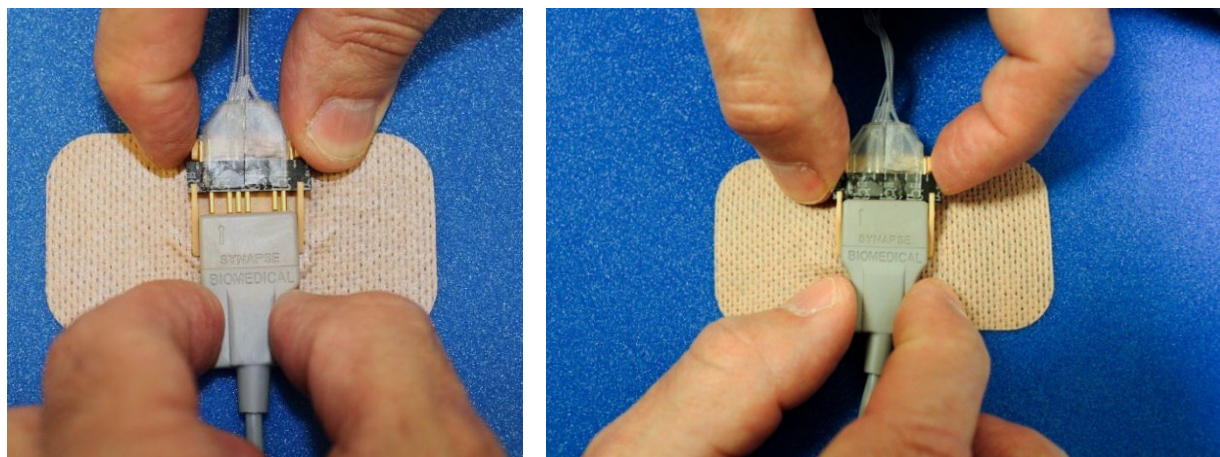

Figure 10. Connecting the patient cable to the electrode connector.
- Connect the patient cable to the electrode connector. To do this, hold the electrode connector between two fingers. Slide the patient cable into the connector holder. Secure the patient cable to the electrode connector (Figure 10).